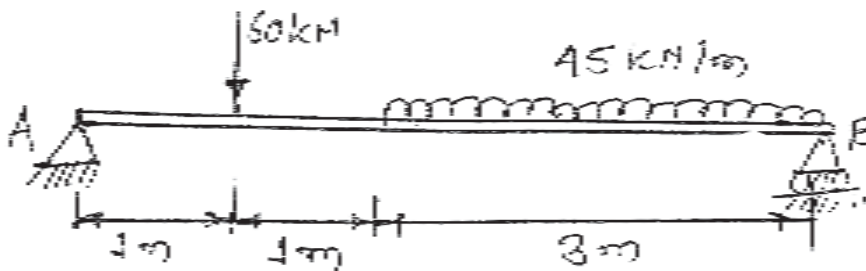

Fig. 05
- b) The simply supported beam AB is loaded as shown in Fig. 05 find the slope at 'B', 'C' and deflection at 'C' and 'D'. Assume $E = 200 \text{ GPa}$ and $I = 2 \times 10^8 \text{ mm}^4$. 8